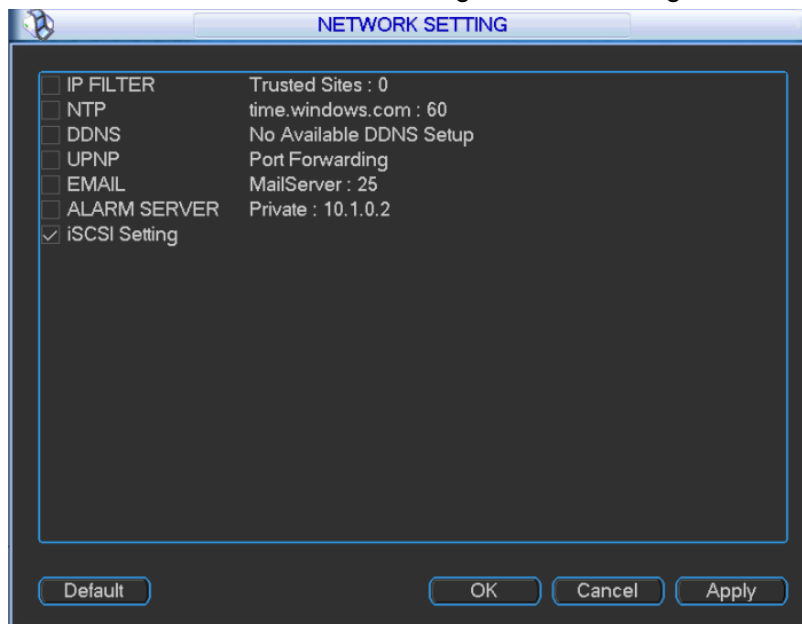

Figure 3- 40
- LAN service: Click to enter LAN service setting as shown in Figure 3- 40.